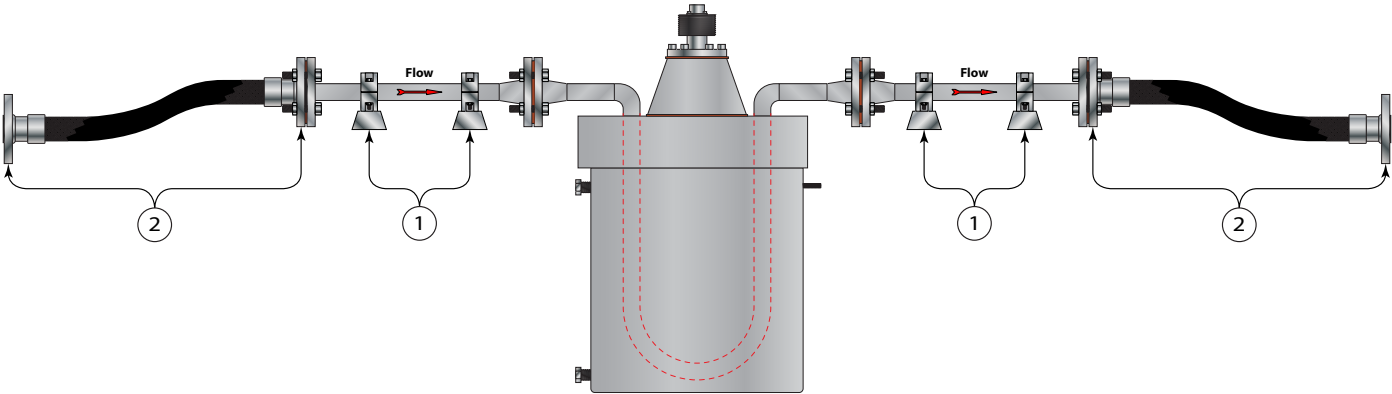
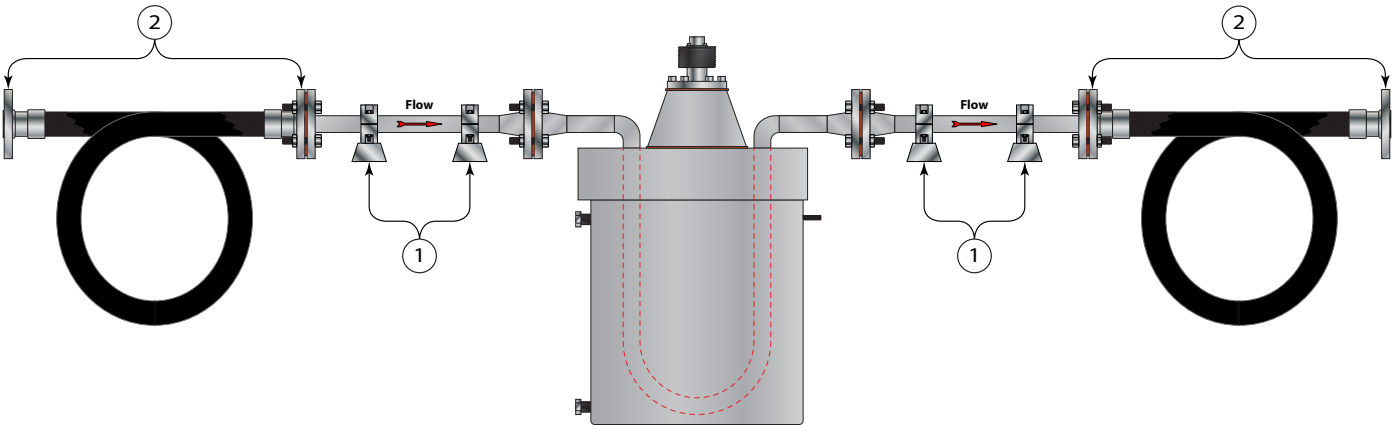

Figure 11: Flexible armored hoses
Figure 12: Flexible armored hose loops
8. When using hose connections a short section of rigid pipe should be used on each side of the meter for proper support. The meter should not hang from hose connections (see *Figure 11* and *Figure 12*).
11. Use of armored hoses, as sensor vibration isolators may be required when a high amount of ambient vibration is present (see *Figure 11* on page 14 and *Figure 12* on page 14).